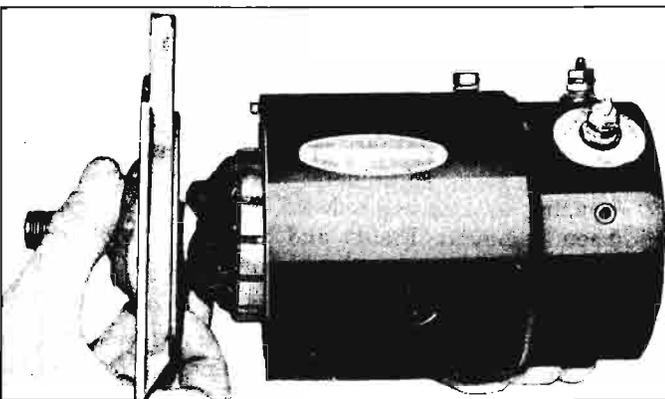

Fig. 8-15—Removing End Frame and Armature from Generator
2. Disconnect the armature and field terminal wires from the generator (fig. 8-15).
3. Remove the armature and drive end assembly as a unit from the generator (fig. 8-15).
4. Remove the drive end frame and armature assembly (fig. 8-15).
2. Install inner spacer washer on drive end frame of armature shaft and place drive end frame over end of armature. Slide outer spacer collar over shaft into end frame. See Figure 8-15.